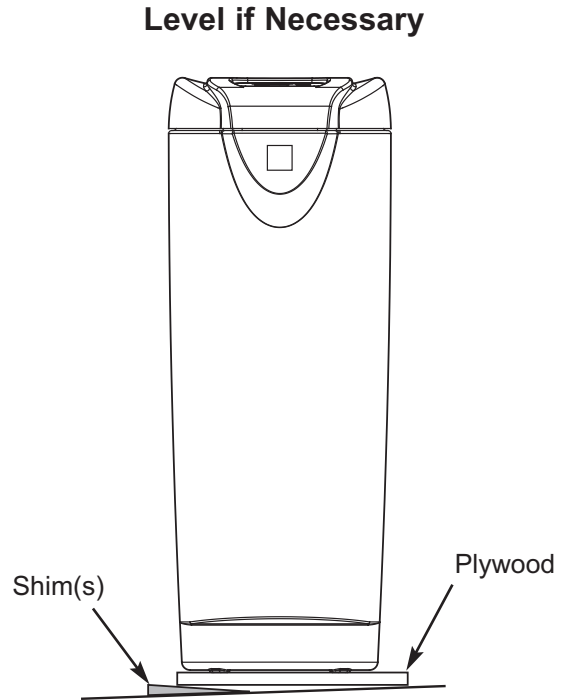

FIG. 8
1. Move the Whole Home Water Filtration System into installation position. Set it on a level surface. If needed, place the unit on a section of plywood, a minimum of 5/8" thick. Then place shims under the plywood to level the Whole Home Water Filtration System (see Figure 8).